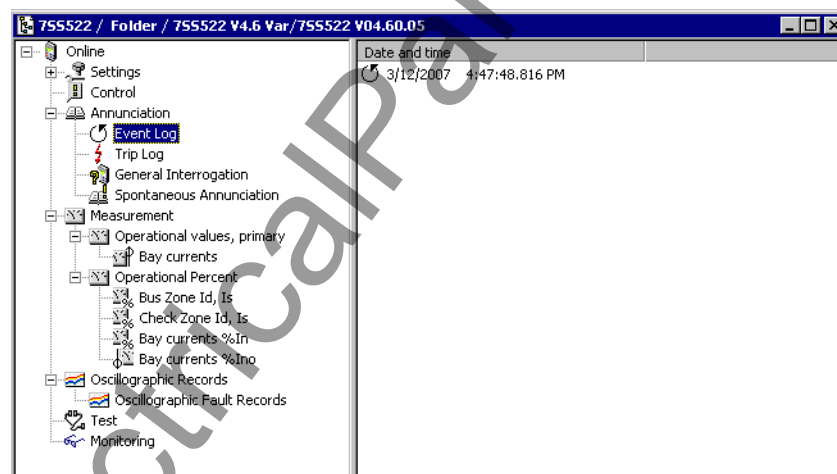

Figure 6-2 Overview of operational events in DIGSI – Example
- ❑ Click **Event log**. A list appears in the data window (right section of the window), (Figure 6-2, page 214).